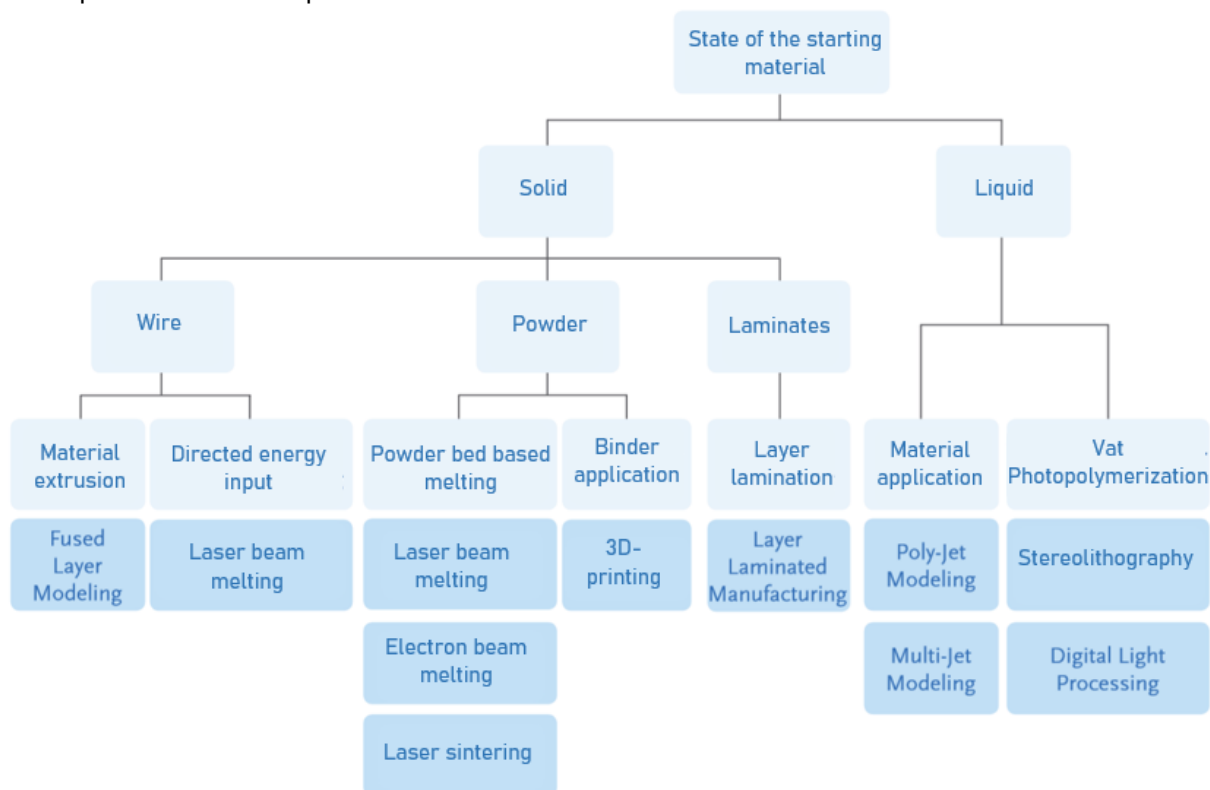

Figure 1: Subdivision of the additive manufacturing processes according to the initial material state and underlying process category [2]
Additive manufacturing processes (3D-printing) are all processes where a material is added layer by layer to produce a component. These components are created - based on data models - from liquids, polymers, powders, ribbon- or wire-shaped material via chemical and/or physical processes. [1] Figure 1 comprises the different processes.
- Health hazards due to exposure to substances such as materials, inert gases, cleaning agents, exhaust gases, hazardous waste. The absorption of substances *via* inhalation (inhalative exposure to gases, vapours, aerosols) can occur in all manufacturing processes (Fig. 1). Poisoning through skin/eye contact (dermal exposure) can occur, for example, when cleaning components with chemicals. Poisoning upon unintended swallowing (oral ingestion) might occur, for example, when taking off protective gloves incorrectly or if insufficient protective gloves are worn and consequently dirty fingers reach the lips. Particular caution must be taken when handling volatile chemicals, CMR substances (carcinogenic, mutagenic and/or toxic for the reproduction), powdered metals, ultra-fine particles, alveolene penetrant and inhalable dust as well as exhaust gases (e.g. welding smoke).